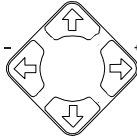

Figure 23: Navigation Control Keys
- Using the navigation control keys on the infra-red remote control transmitter (see Figure 42), to fine tune the zoom position (that is, to slowly zoom-in at any location on the screen)³, as Figure 23 illustrates